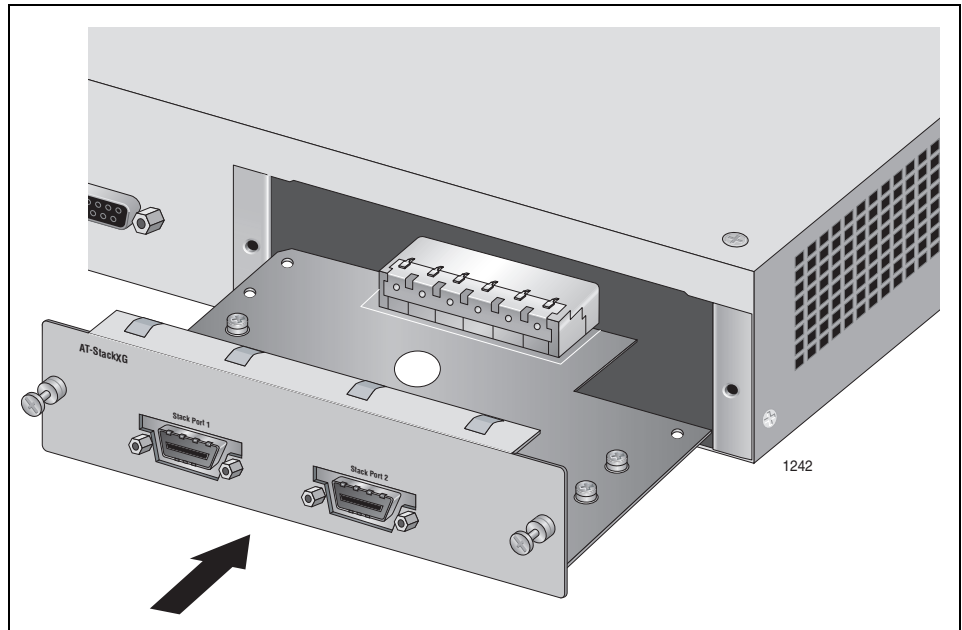

Figure 10. Installing the AT-StackXG Stacking Module
3. Align the edges of the module with the guides in the slot and carefully slide the module into the chassis until it is flush with the back panel of the chassis, as shown in Figure 10 on page 47. Light pressure may be needed to seat the module on the connector on the back panel of the chassis.